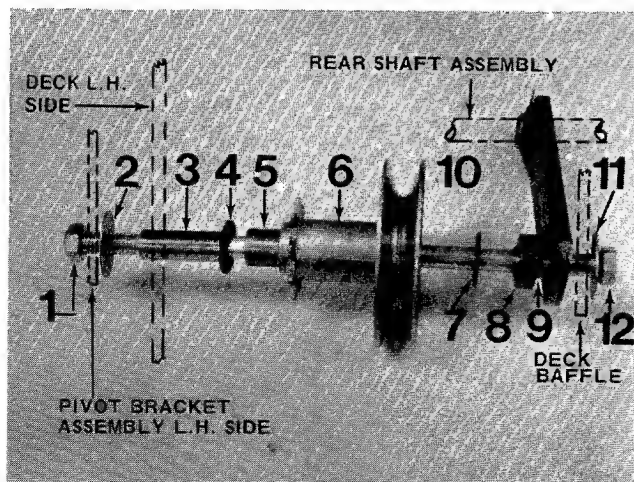

FIGURE 26
Be sure the spacers and washers are installed in the same order when re-assembling the pulley. See figure 26.
9. Reassemble the pulley bolt making certain the parts are assembled in correct order. See figure 26.
Figure 26 shows the order of assembly only. Parts cannot be preassembled.
Descriptions for Figure 26.